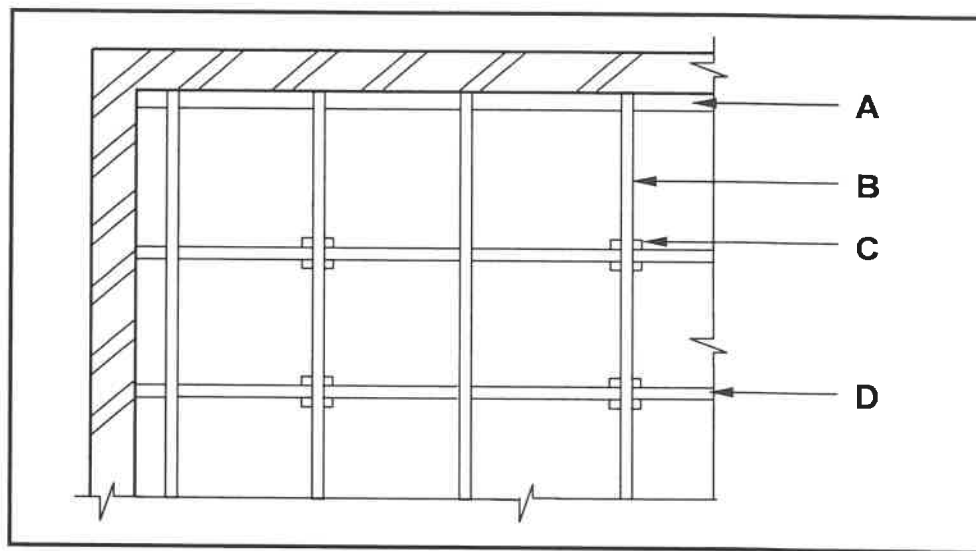

FIGURE 6.2
- 6.2 FIGURE 6.2 below shows part of the floor plan of a suspended timber floor. Study the drawing and name parts **A** to **D**.
- 6.3 Justify why the concrete base under part **C** in FIGURE 6.2 should be wider than part **C**. (1)